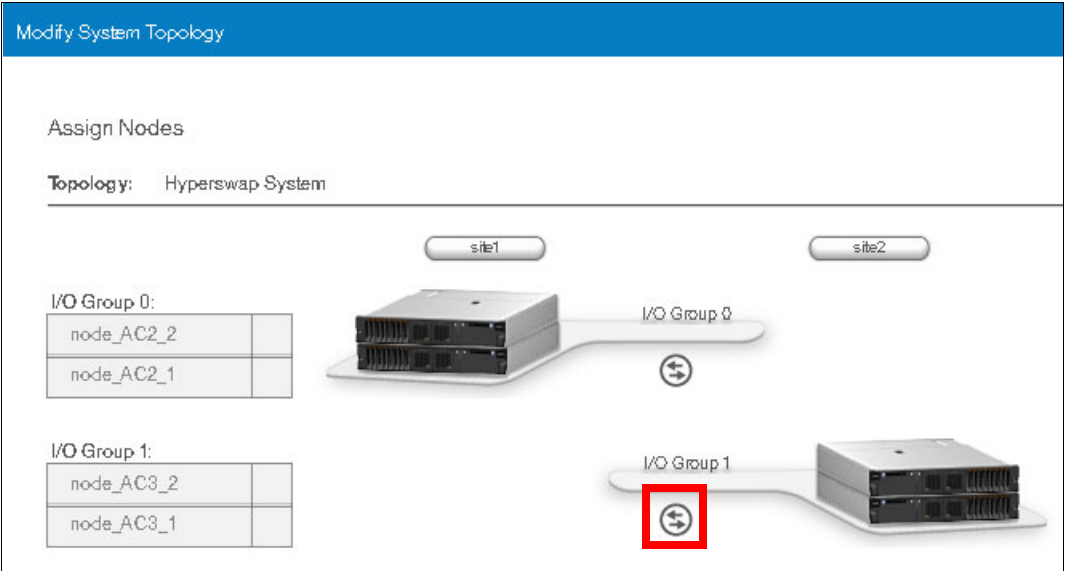

Figure 6-14 Assign control enclosures (nodes) to sites and I/O groups
3. In this example, the default site names are used. Assign the control enclosures to sites by clicking the dual-arrow radio buttons (Figure 6-14).